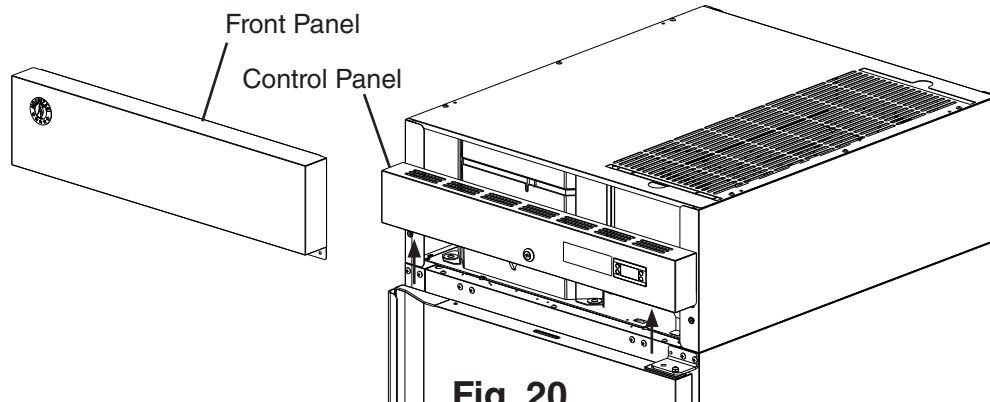

Fig. 20
- 2) Remove the front panel, then being careful not to pull the wires on the control module and door switch(es), remove the control panel. Secure the control panel so that it does not interfere with the hinge bracket and will not fall. See Fig. 20.